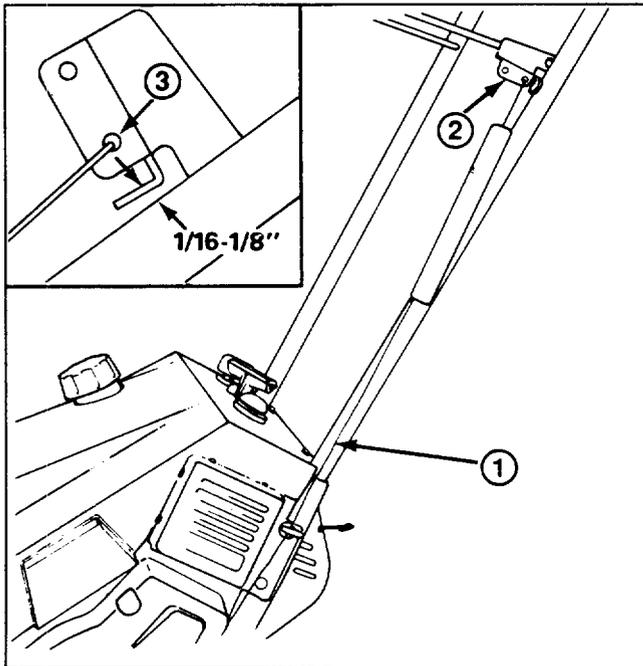

Figure 9
ADJUSTING CONTROL BAR (Fig. 9–10)
2. **CHECK ADJUSTMENT (Fig. 9)**— Move control bar back toward handle until slack in cable is removed. Gap between control bar bracket and handle should be approximately 1/16"–1/8". If cable is too loose or too tight, proceed to step 3 for adjustment procedure.